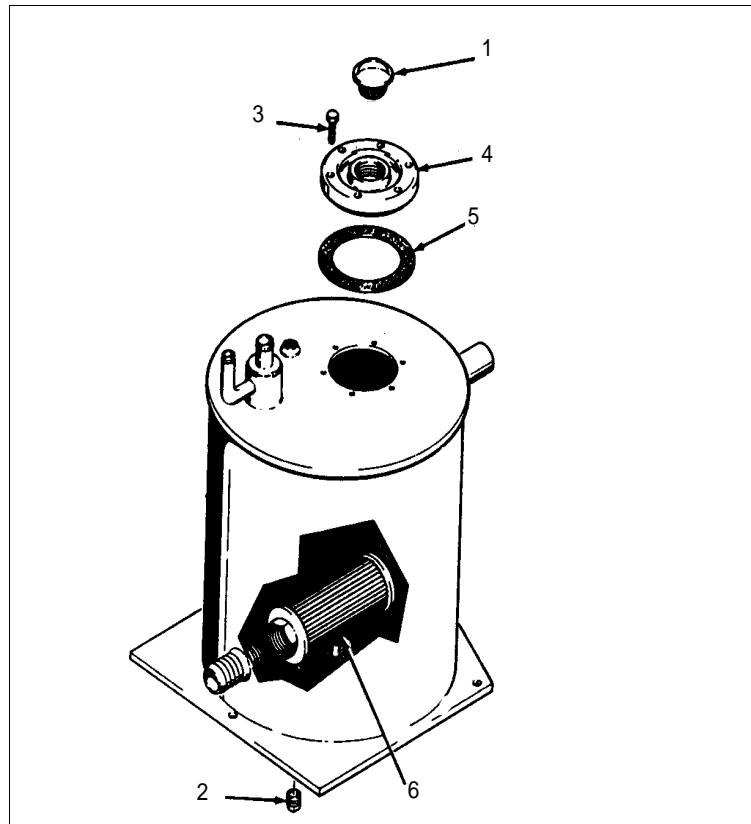

Figure 1-5. Hydraulic reservoir of a J. I. Case Model MW24C scoop loader
a. Refer to Figure 1-5 and use the following steps to drain the reservoir on the gear pump:
- Remove the filler plug (1) on the hydraulic reservoir slowly to relieve air pressure.
- Remove the drain plug (2), and drain the fluid from the reservoir into a container.
c. Refer to Figure 1-5, page 1-6, and continue with the following steps to install the assembled gear pump:
- Replace the drain plug (2) and strainer assembly (6) in the reservoir.
- Replace the cover (4) and the gasket (5) on the reservoir, and secure the cover with screws (3).
- Refill the reservoir with hydraulic fluid, and replace the filler plug (1).